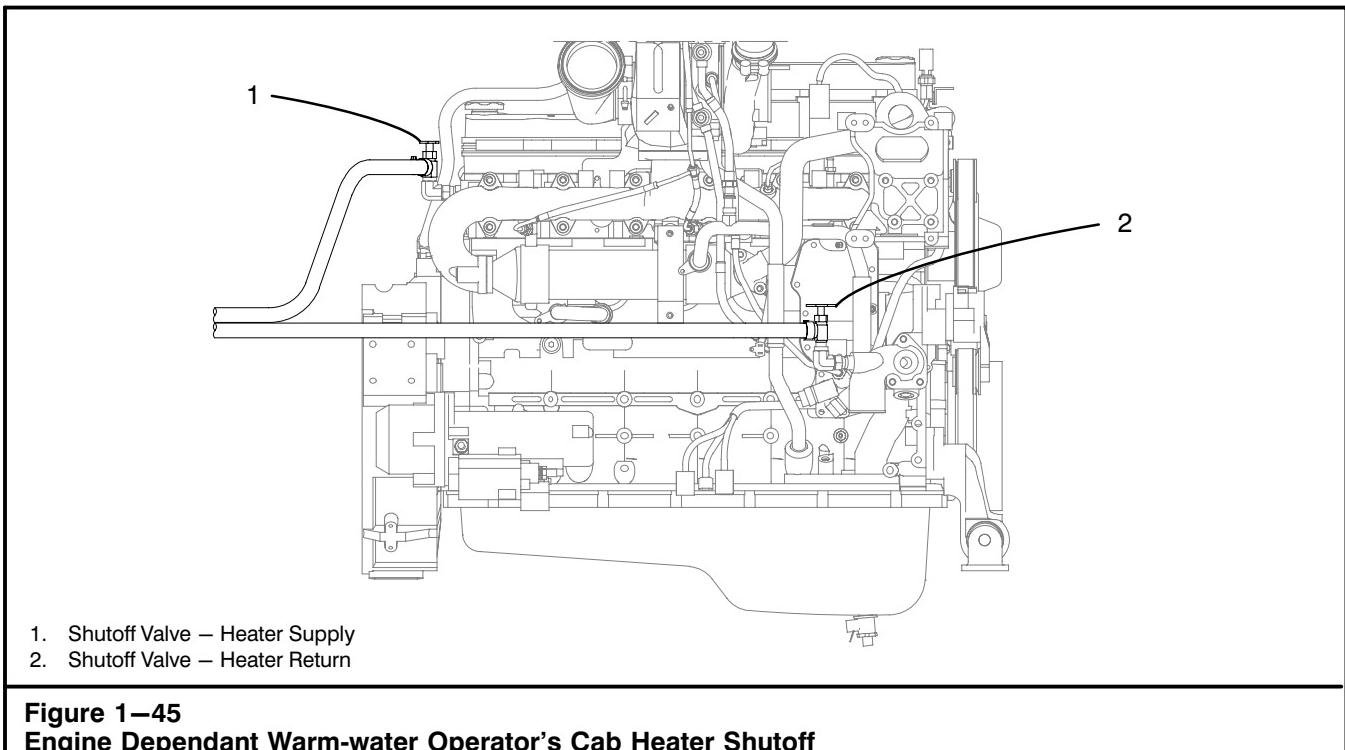

Figure 1–45
This operator's cab heater uses engine coolant circulating through the unit to provide heat. Normally the engine coolant circulates through the heater in the operator's cab regardless of whether the heater switch is turned on or not. During warm weather conditions, the operator may wish to shutoff the flow of hot engine coolant to the heater to reduce the temperature in the operator's cab. Shutoff valves are on the engine to perform this function. Refer to Figure 1–45.
1. With the engine running, press the heater switch or if crane is equipped with air conditioning, press the top part of the heater/air conditioner selector switch to turn the heater on. Refer to Figure 1–41.